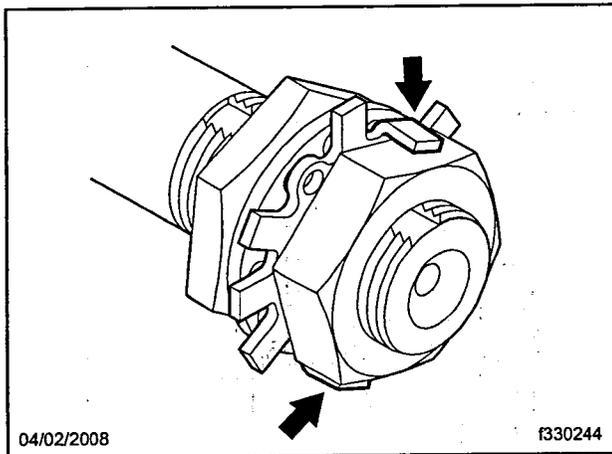

Fig. 11, Tabs Bent to Lock the Jam Nut
9. Bend the tabs on the locking washer at 6 o'clock and 12 o'clock to lock the jam nut in place. See Fig. 11.